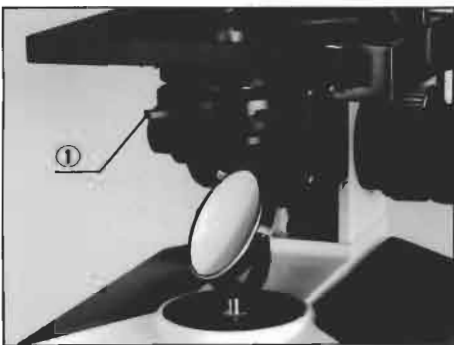

Fig. 15
- 1) Turning the diaphragm lever ① counterclockwise reduces the diaphragm opening. (Fig. 15)